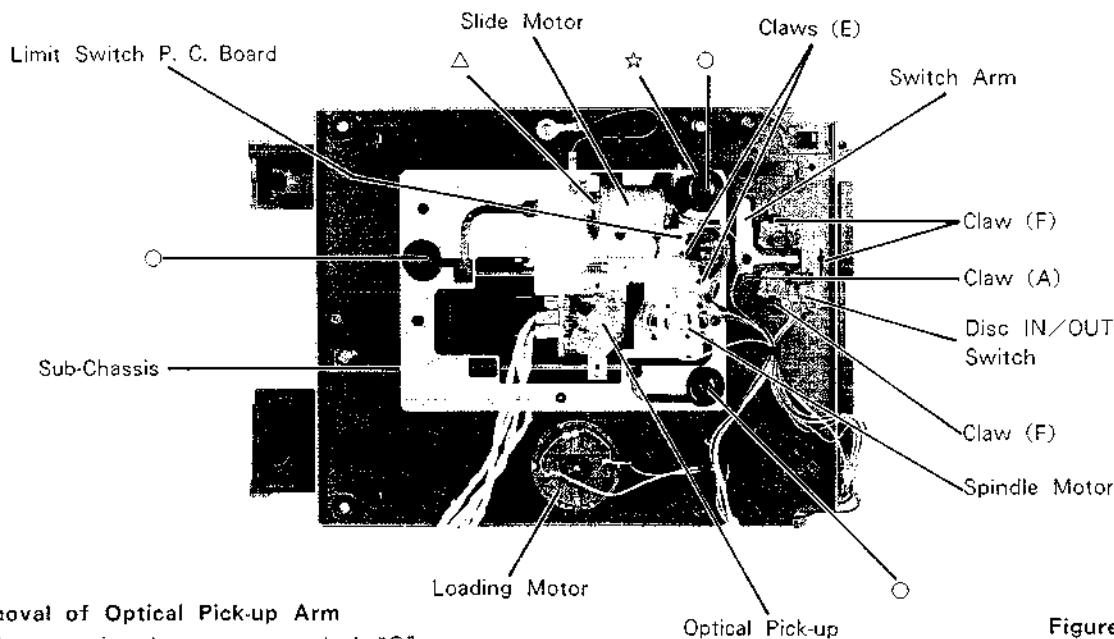

Figure 10
- (2) After disengaging one claw (A), remove the switch arm as shown in Figure 10.
(1) After removing three screws marked "○", remove the sub-chassis as shown in Figure 10.
- (1) Remove one screw marked "△" and lift up the motor as shown in Figure 10.
- (1) Remove two claws marked "E" as shown in Figure 10.
- (1) Remove three claws marked "F" as shown in Figure 10.